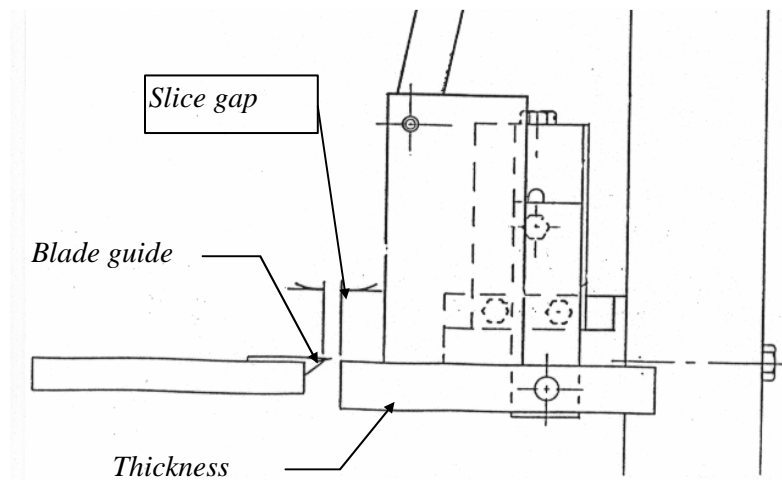
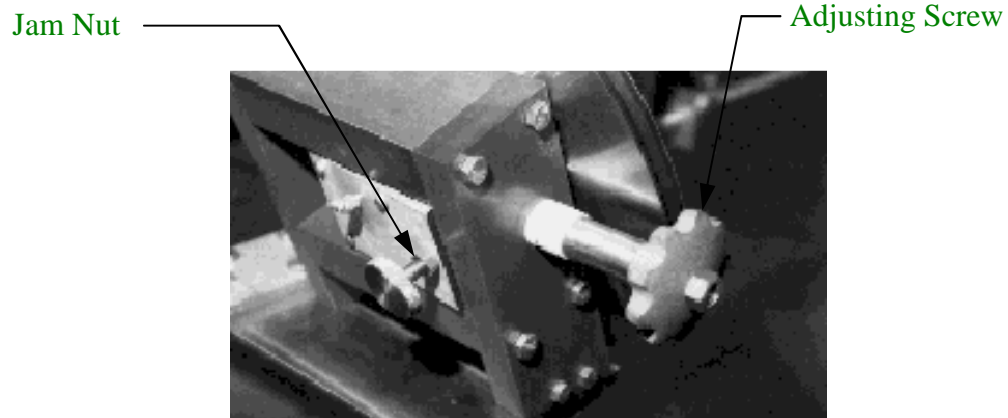

Figure 16. *Slice Gap.*
Figure 18. *Idle Side Tracking Adjustments(Non-Sealed Bearings).*
Figure 16 shows the adjustment bolts for the slice thickness range and slice gap on standard thickness trays.
The slice gap adjustment procedure is listed below. Figure 16 shows the slice gap adjustment bolts.
3. Loosen the hex head bolt in the drive side thickness tray mounting assembly pictured in Figure 16 for hydraulic slicers and Figure 18 for All-Electric slicers..